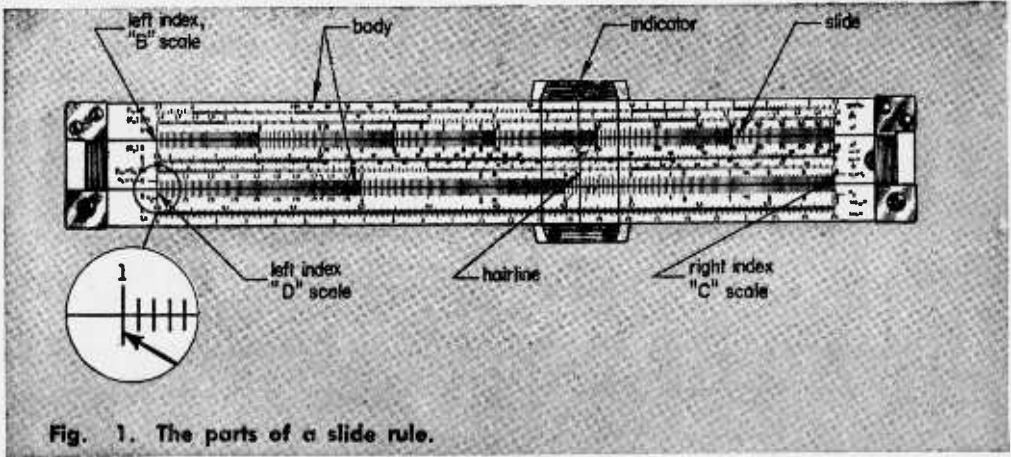

Fig. 1. The parts of a slide rule.
quency. Note in Fig. 1 that two tubes are used. During operation, these tubes operate in see-saw fashion; each switching the other on and off in turn. This back-and-forth movement of current flow is made to occur at the desired audio frequency.
The action is based on the principle that a signal introduced to the control grid of a tube will cause a larger current flow in the tube's plate circuit. This is basic amplification. But there's one peculiarity in the amplified flow: it travels in the reverse direction as compared with the grid signal. This is something like walking due North, then turning around and heading due South. According to a compass, you've reversed direction by 180 degrees. The signal, too, undergoes a 180-degree change. Only here the turnaround is from positive to negative. This can be seen in Fig. 1(a). Note that the starting point at Tube 1 grid is marked plus. This positive charge occurs when the oscillator is first turned on, causing the initial surge of current. The signal is amplified and appears at the plate. And, as mentioned above, it is now minus due to the reversal.
Fig. 1. Oscillators are basically amplifiers that feed back a portion of their amplified signal to the input circuit in the correct phase to boost the input signal and sustain oscillation. In (A) above, the output signal from the plate of the second stage is fed back to the input control grid of the first stage. In (B), the Wien circuit picks the desired RF frequency and rejects all others.
The circuit is now made practical by adding some method of varying the frequency. This is the resistor-capacitor network shown in Fig. 1 (b). These components can be considered as a type of filter. According to their values, they permit only one frequency to pass from the feedback path onto the grid of Tube 1. All undesired frequencies are short-circuited in the network. Another way of viewing it is to recall that *positive* feedback gets the circuit oscillating. What the network provides is *negative* feedback—on all but the desired signal frequency. Undesired signals are effectively cancelled out.
There's a circuit refinement shown in Fig. 1(b) to keep signal energy at a constant level, an important feature in using the generator. It's the lamp placed in the cathode of Tube 1. It acts as a continuous regulator in this fashion: If, for some reason, the signal
**Looking at the slide rule.** The first thing when you first look at a slide rule is a profusion of scales. (See Fig. 1.) Actually,